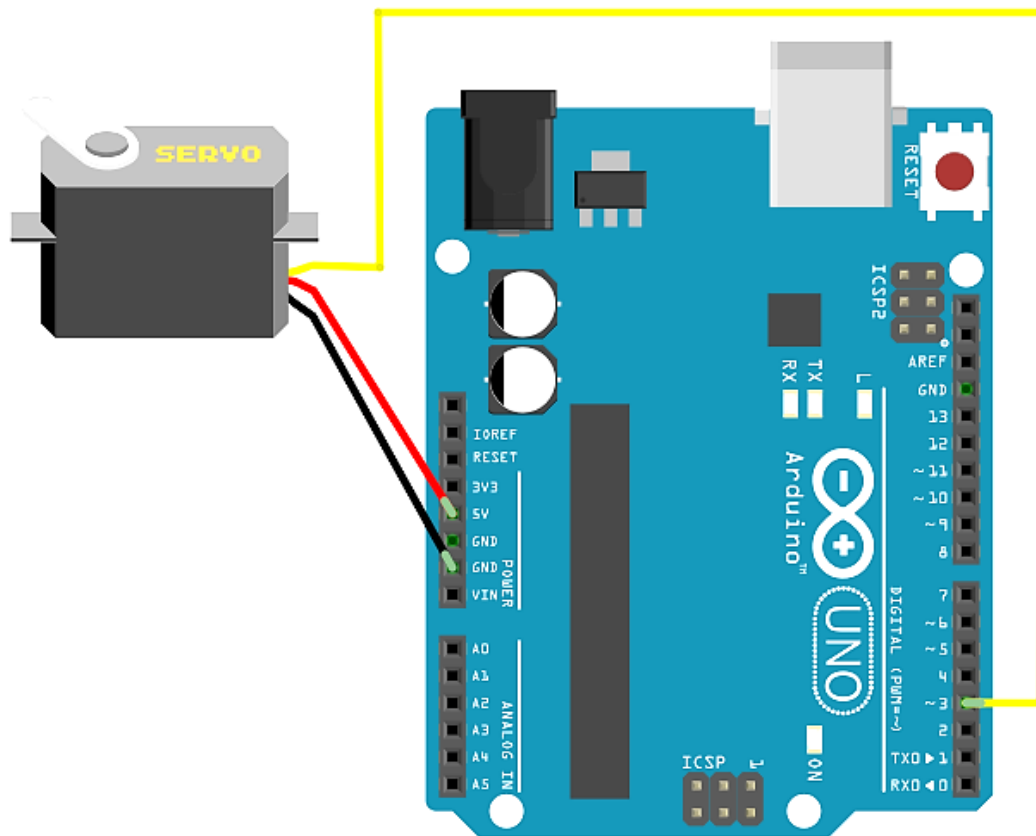

Figure 2.4: Modified circuit
3. Sketch added Servo 2 to circuit Figure 2.4 in result.